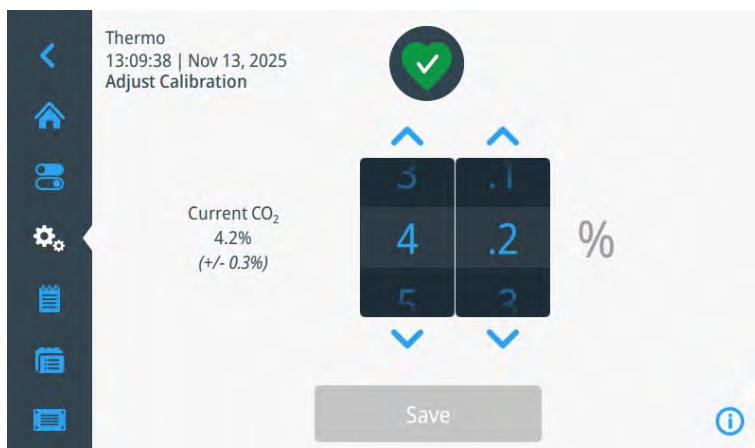

Figure 7-65. Adjust CO₂ Calibration
4. Tap „Calibrate“ if the CO₂-measurements are equal. Screen „Adjust CO₂ Calibration“ appears (Figure 7-65).